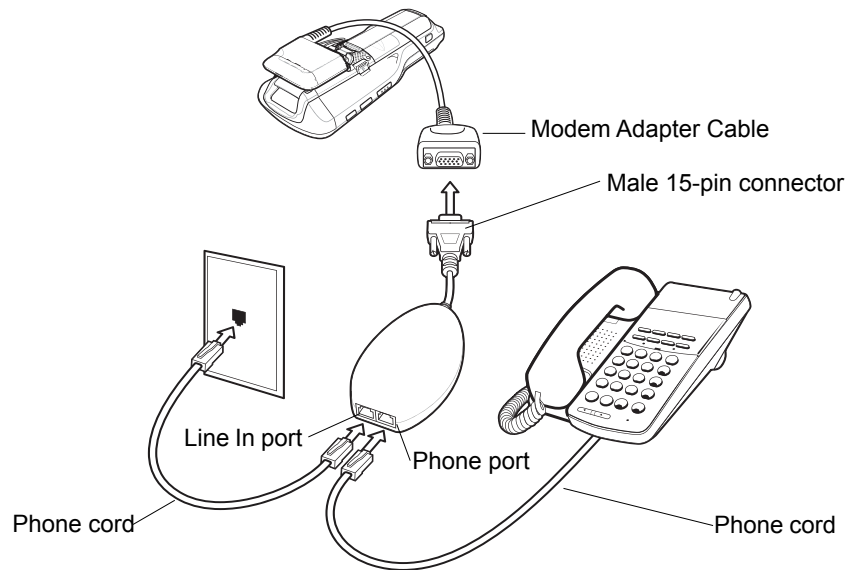

Figure 2-48 Modem Dongle Connection - MC9500-K
1. Connect the modem to the MC9500-K as shown in *Figure 2-48 on page 2-33*.